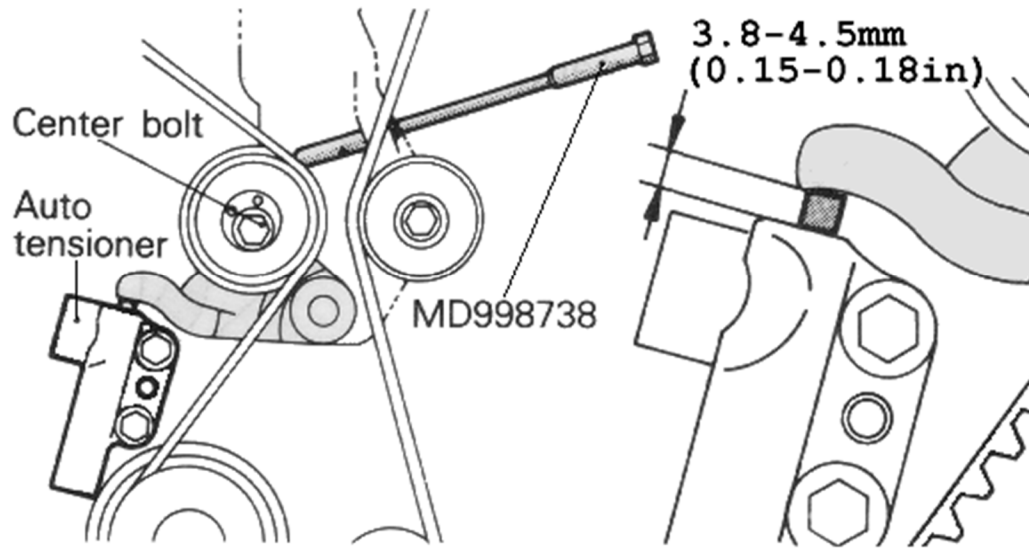

Figure 18
42. Measure the auto tensioner push rod position with a drill bit (distance between the tensioner arm and auto tensioner body) to ensure that it falls within the specification of 3.8-4.5 mm (.15-.18 in.) as shown in Figure 18.